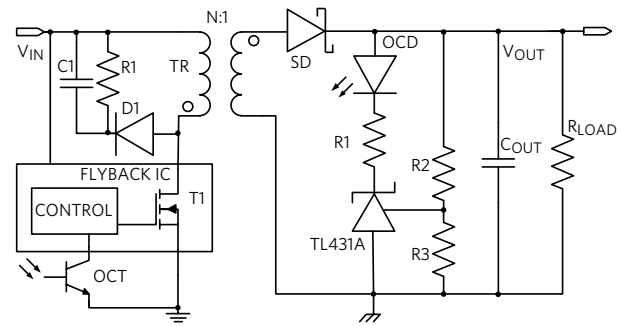

Figure 25. Flyback with Optocoupler
Using galvanically isolated transformers with PWM control is the most common architecture for an isolated DC-DC power supply. The flyback converter is the classic architecture that produces an isolated output. **Figure 25** shows the traditional implementation. During the "ON" time of the transistor T_1 , the voltage across the primary winding is positive (equal to V_{IN}) and the voltage across the secondary winding is negative. Consequently, the Schottky diode (SD) prevents energy from passing to the output and the energy is stored in the transformer. During the "OFF" time of T_1 , the primary winding inverts its voltage, which allows the energy to be released to the output. The control loop is quite complex, often requiring a shunt regulator (TL431A) on the secondary to regulate the voltage at the output. An optocoupler and error amplifier on the secondary-side of the transformer provide the isolated feedback signal needed to close the PWM control loop to the primary side.